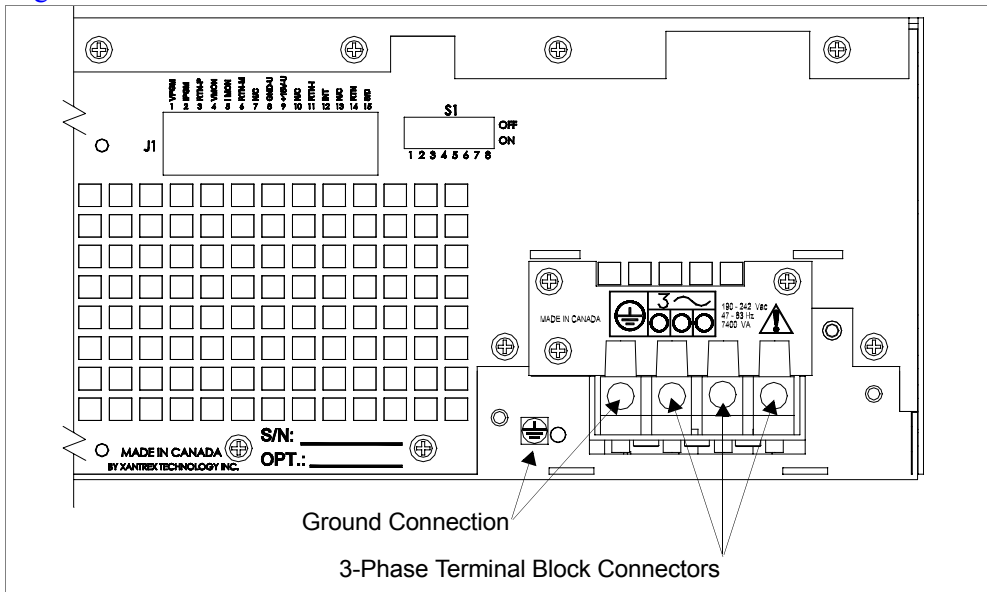

Figure 2.4 AC Input Connector
**WARNING** A safety ground wire must be connected to the unit as shown in Figure 2.4 to ensure operator safety.
The AC input connector is a standard wire clamp terminal block with 3-phase connectors and a chassis ground connector. The safety ground wire, alternatively, may be connected to the chassis using a ring tongue on the ground stud as shown in Figure 2.4.